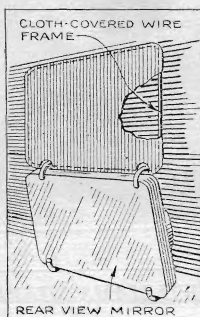

Fig. 3. Silk cloth used to shield car mirror.
**GLARE** from the headlights of cars approaching from the rear often shines in the rear vision mirror in a most annoying manner. Fig. 3 shows how to prevent this and still retain the use of the mirror. Make a simple frame of heavy iron wire slightly larger than the size of the mirror. Hinge this at the bottom under the top portion of the mirror mounting as shown. The details of the method depend on the method of construction. Cover the frame with a single layer of thin black silk cloth. If the cloth is thin enough, the headlights of cars behind will show through sufficiently.